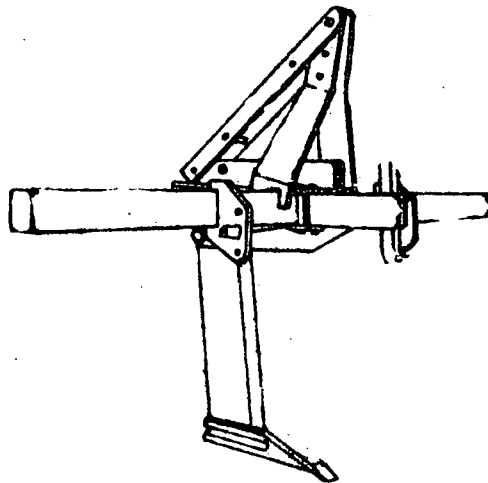

Fig. 1
*The subsoiling attachment.* It consists of the cutter, the front edge which cuts the soil, the share which tills the subsoil and the mole which is used to open underground channels for drainage when necessary (Fig. 1).